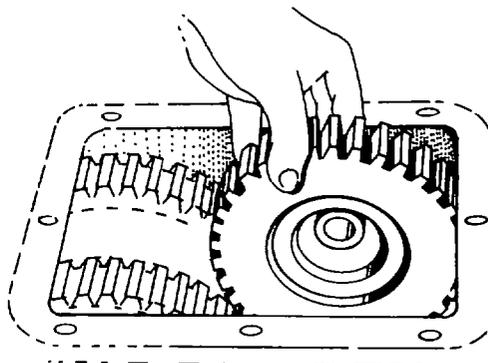

Fig. 206 — Installing Fourth Gear
- r. Install the fourth gear in the case (clutch teeth forward) with the thrust washer, and engage with the countershaft gears (see fig. 206).